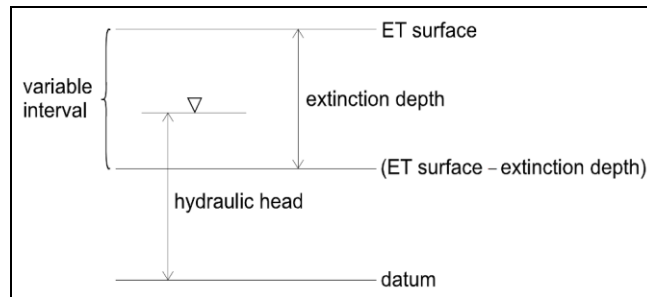

Figure 1 ET model, from Banta (2000)1
The EVT package—existing since at least MODFLOW 88—requires three parameters to determine evapotranspiration: the evapotranspiration (ET) surface elevation, the maximum ET rate, and the extinction depth. When the head in a cell is at or above the ET surface, ET occurs at the maximum ET rate. When the head is below the extinction depth, ET is zero. In between these two points, the ET varies linearly (Figure 1).